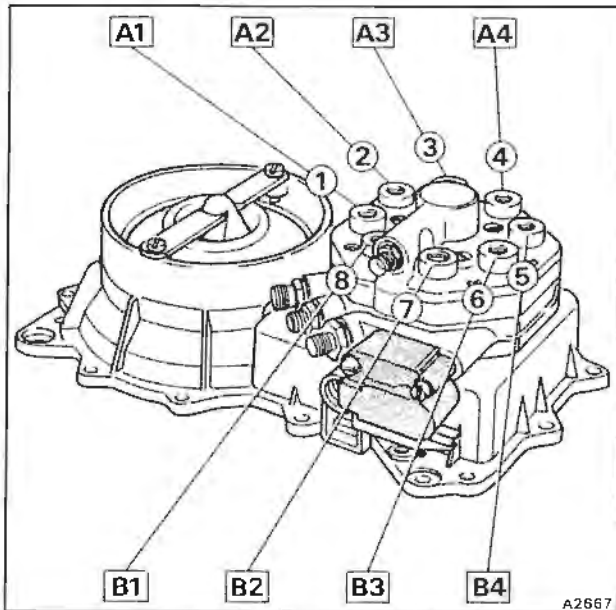

Fig. B4-49 Fuel distributor connections
**Note** Outlet one from the distributor should always be nearest to the fuel inlet connection. Figure B4-49 indicates which test line and switch of the test equipment are connected to which engine cylinder.